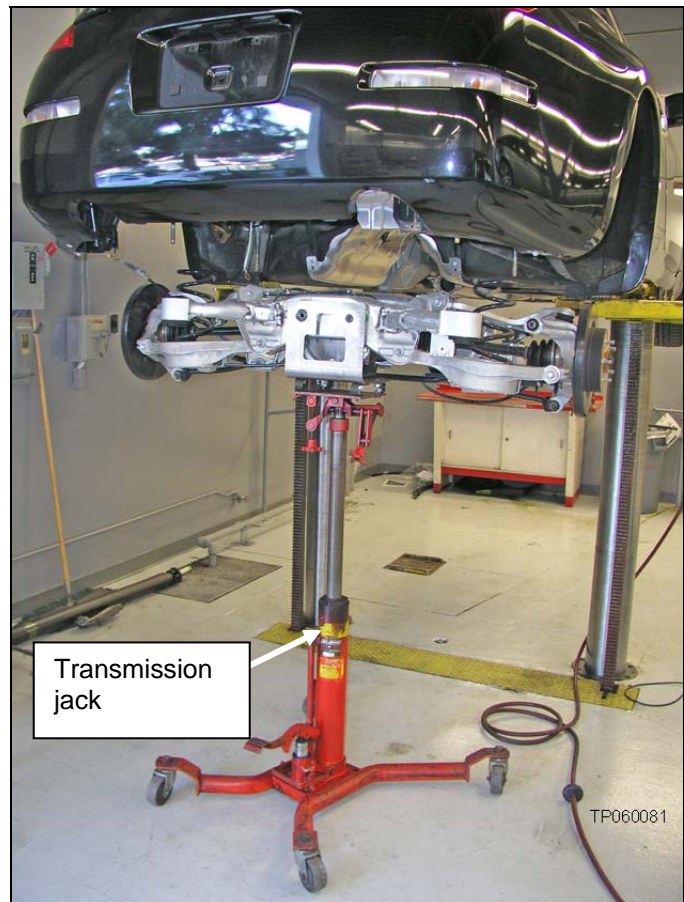

Figure 30
30. Carefully lower the suspension member (see Figure 30) and place it in a safe location away from “traffic”.